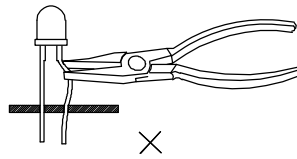

Fig. 7
6. During lead forming, use tools or jigs to hold the leads securely so that the bending force will not be transmitted to the LED lens and its internal structures. Do not perform lead forming once the component has been mounted onto the PCB. (Fig. 7)